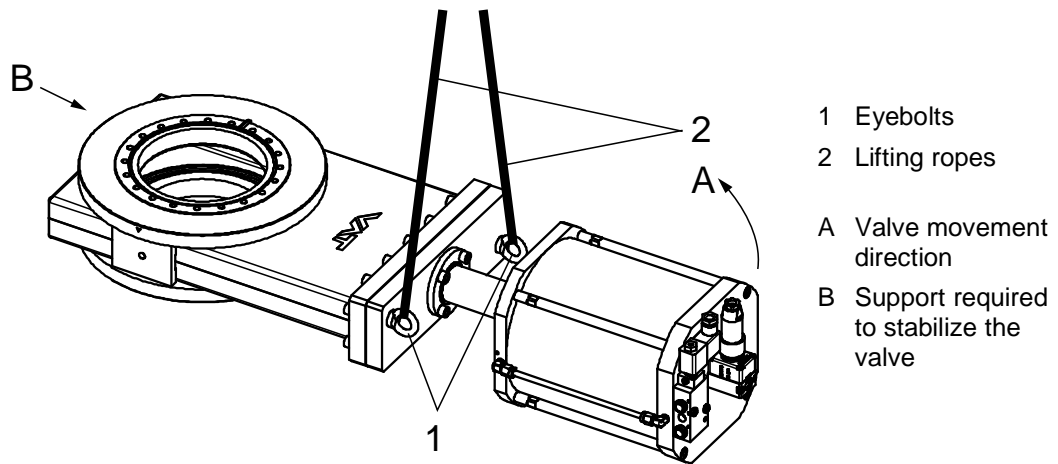

Figure 4-1
Open the plastic bag protecting the valve only at the points where you need access to the eyebolts (1) for fastening the crane hooks; see «Figure 4-1» on page 10. Keep valve in the plastic bag until it is being installed into the system.
<p>Wrong lifting Valve may crash and get damaged. Use only the eyebolts shown in the dimensional drawing and in «Figure 4-1» on page 10 to lift the valve. Using any other components (e. g. position indicators, solenoids) to lift the valve is strictly forbidden.</p>
Use a crane for lifting valve DN100 and higher out of the transport box; see «Figure 4-1».